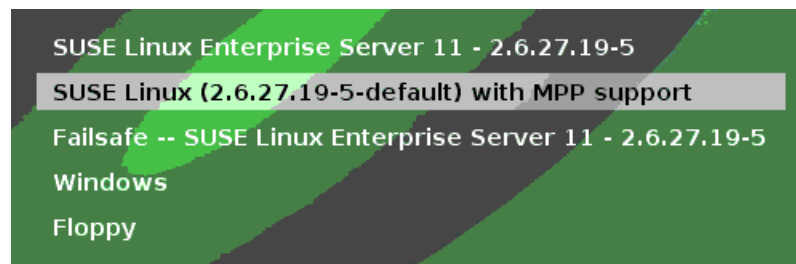

Figure 20-11 Boot menu when server starts after RDAC installation
4. Reboot the server and when the grub menu appears select the SUSE Linux (2.6.27.19-5-default) with MPP support option as shown in Figure 20-11. It is possible to make this selection as default by changing the default parameter in the menu.lst file.